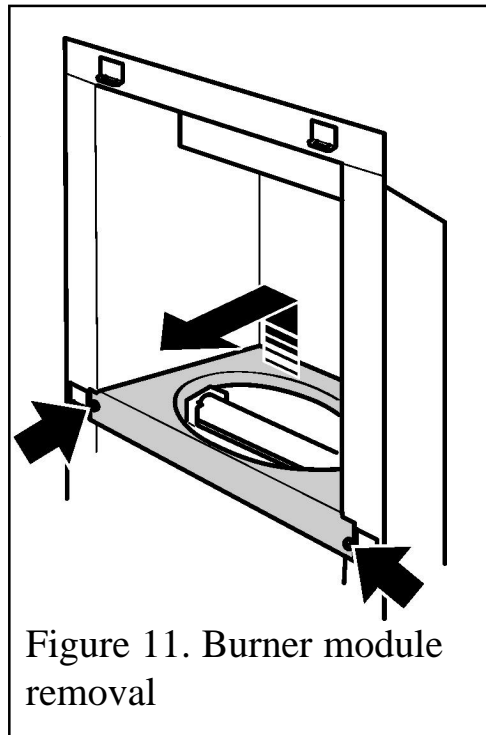

Figure 11. Burner module removal
6. Remove the two screws to the side of the burner cover (See figure 11)
7. Detach the burner cover by lifting clear of the burner module (See figure 11)